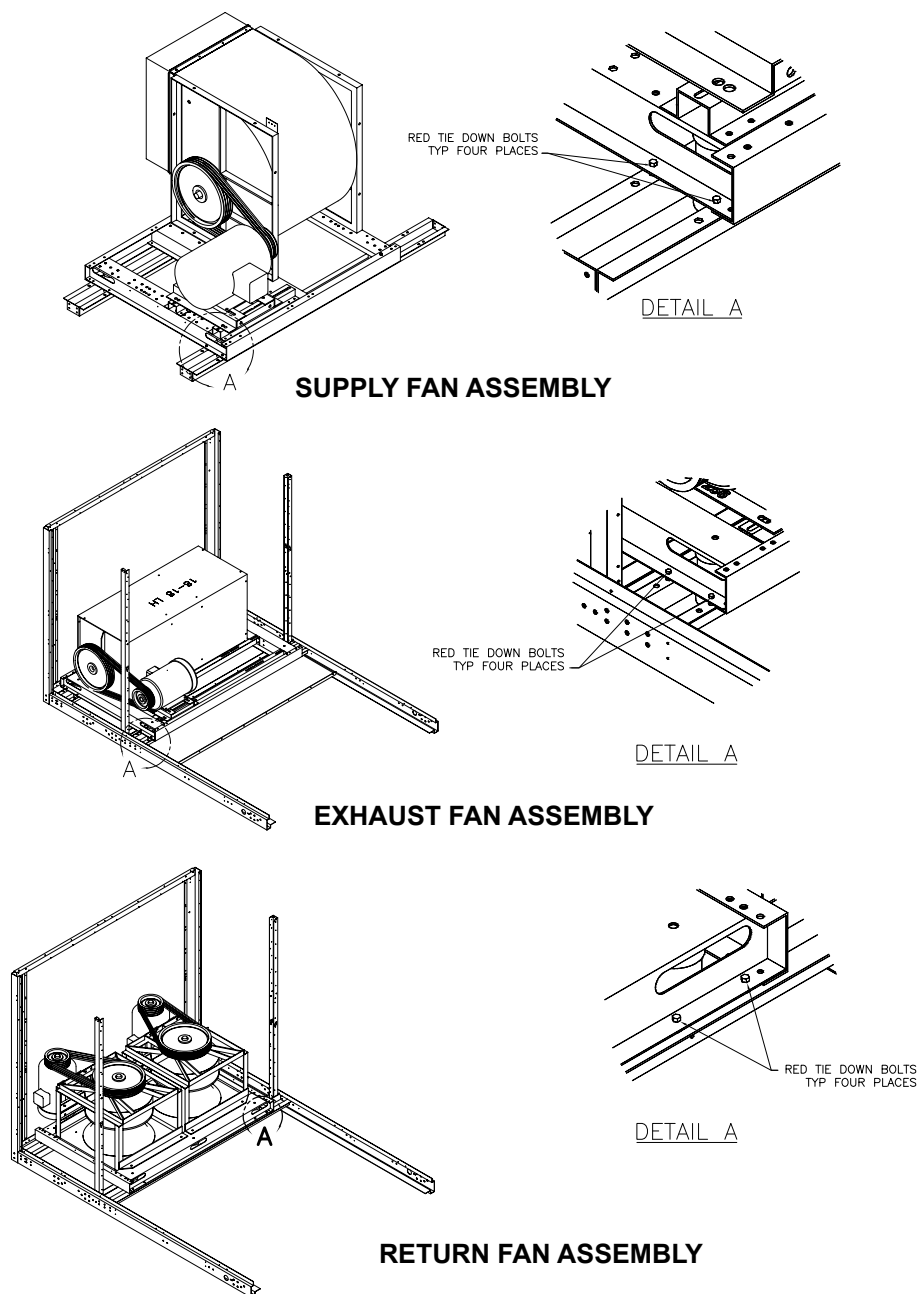

FIG. 3-1 – FAN ISOLATOR SPRING BOLTS (TOTAL OF 8)
10. Supply fan isolators spring bolts removed (refer to Figure 3-1).
*The supply, exhaust and return fans have tie down bolts installed at the factory to prevent movement in the fan assemblies during shipment. **THESE HOLD DOWN BOLTS MUST BE REMOVED PRIOR TO OPERATION OF THE ABOVE FANS.** There are eight bolts per assembly two at each corner of the fan skids, front and rear. The bolt locations are shown in Figure 3-1. The bolt heads are red in color and a label identifies their location in the unit.*